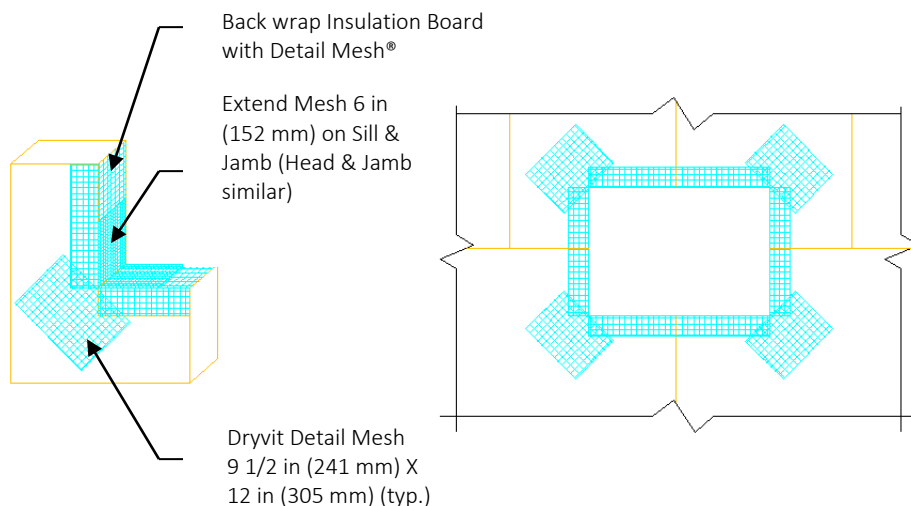

Fig. 21
4. Corners of all openings such as windows, doors, mechanical equipment and all penetrations shall be reinforced with Detail Mesh placed diagonally to the opening as illustrated in Figure 21.